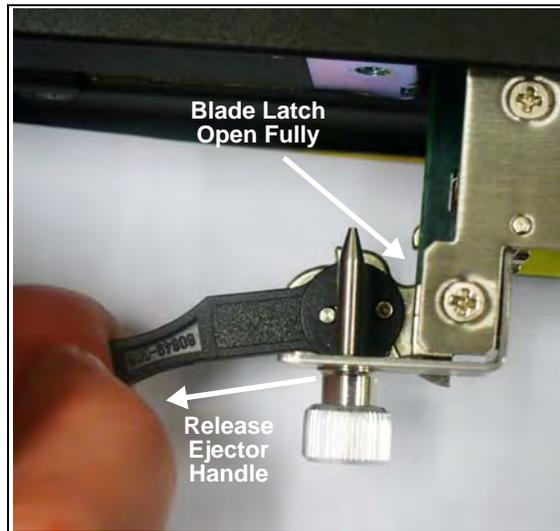

Figure 5.28 - G10 IIC Ejector Handle - Open Blade Latch
3. Swing the handles outward until the blade latch is open fully (**Figure 5.28**) and then release the ejector handle.